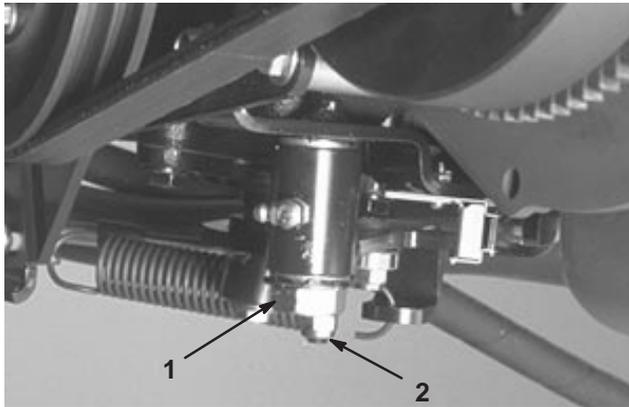

Figure 57
- Loosen the locknut on the traction adjustment cam (Fig. 57).